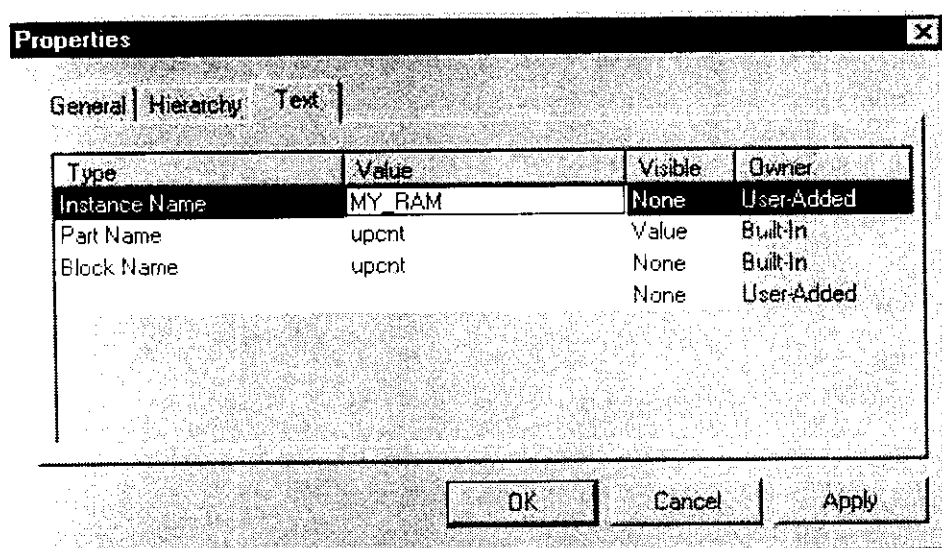

Figure 7. Adding a Meaningful Instance Name
10. In the Properties window, click the **Text** tab and change the Instance Name to **MY_RAM** as shown in Figure 7.